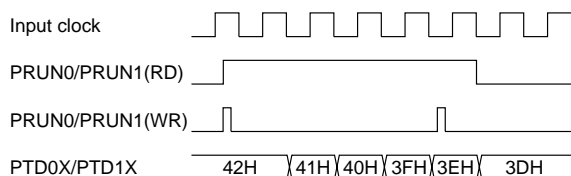

Fig. 5.11.11.1 Timing chart of RUN/STOP control
- (1) The programmable timer is actually made to RUN/STOP in synchronization with the falling edge of the input clock after writing to the PRUN0(1) register. Consequently, when "0" is written to the PRUN0(1), the timer shifts to STOP status when the counter is decremented "1". The PRUN0(1) maintains "1" for reading until the timer actually shifts to STOP status. Figure 5.11.11.1 shows the timing chart of the RUN/STOP control.
- (5) When the 16-bit mode has been selected, be sure to read the counter data in the order of PTD00–PTD07 and PTD10–PTD17. Moreover, the time interval between reading PTD00–PTD07 and PTD10–PTD17 should be 0.73 msec or less.